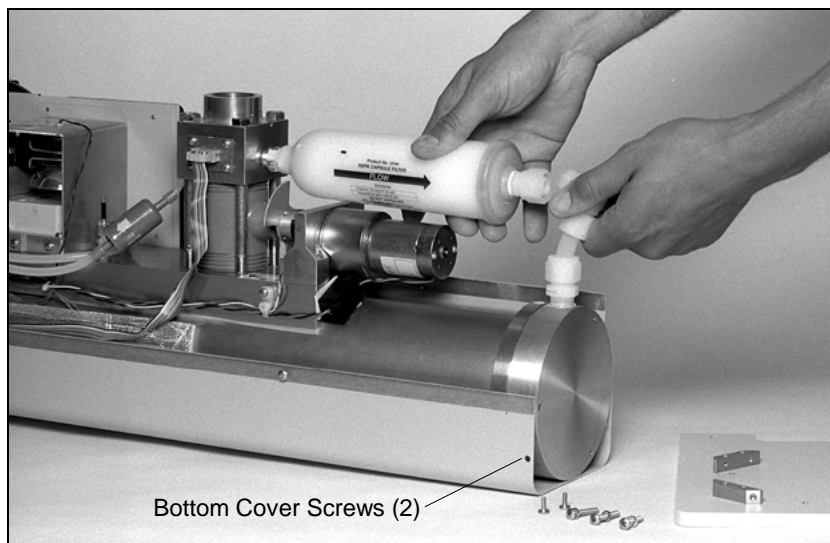

Figure 8-10
- a.** Loosen the end plate by removing the two bottom cover screws (Figure 8-10).